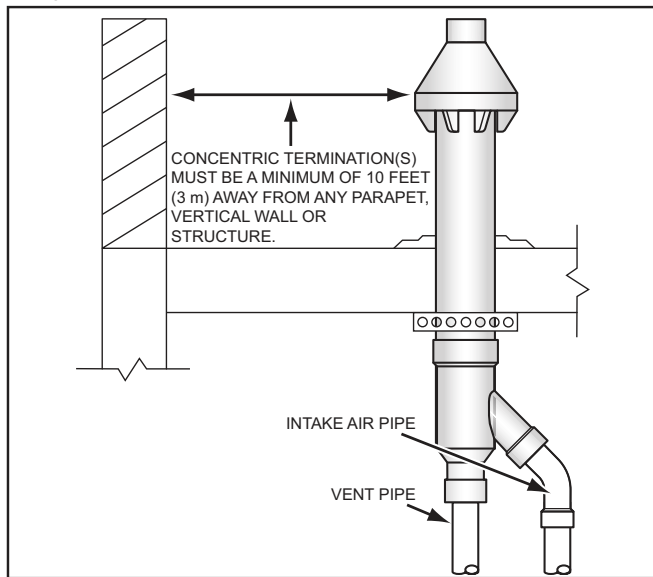
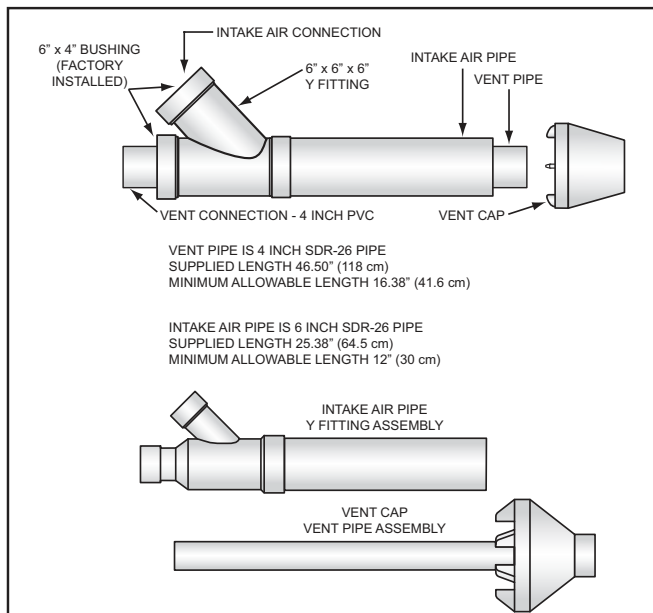
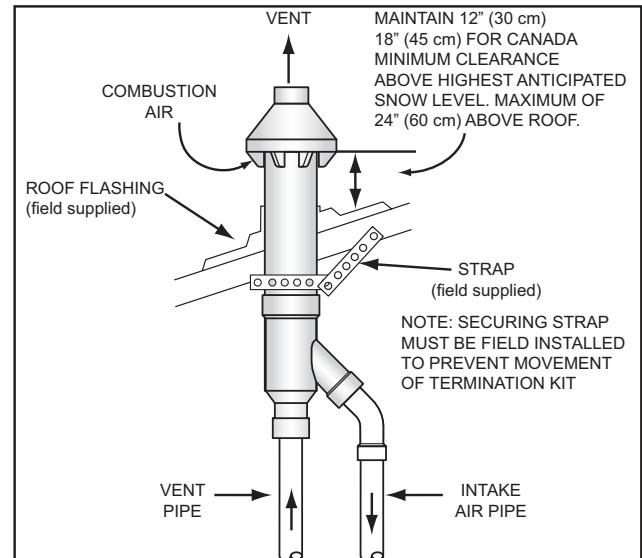
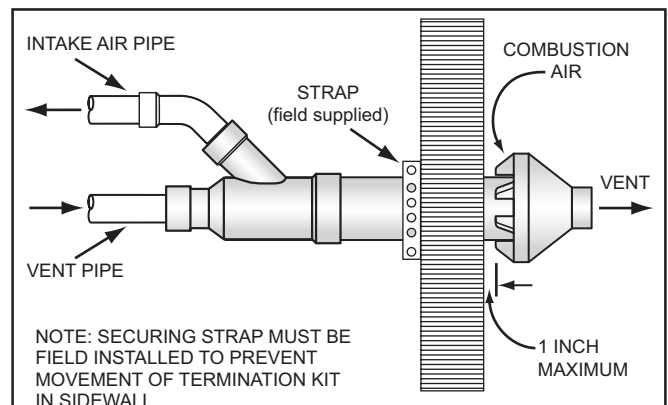

Figure 24. Six-inch Concentric Termination - Flat Roof Clearance
Figure 25. Six-Inch Concentric Termination Kit
Figure 26. Six-Inch Concentric Termination - Vertical Installation
Figure 27. Six-Inch Concentric Termination - Sidewall Installation
- When installing a concentric termination vertically through the roof; ensure that all exterior vertical clearance requirements for the concentric termination, shown in **Figure 24** and **Figure 26** (page 30), are being maintained. These clearances and those cited by local and national codes must be maintained.
- When installing a concentric termination vertically through a flat roof, the termination's vent cap must be a minimum of 10 feet (3 m) away from any parapet, vertical wall or structure as shown in **Figure 24**.
- See **Figure 25** for the minimum lengths allowed for the 6 inch concentric termination.
11. Assemble and install the 6 inch concentric termination. See *Figure 25*, *Figure 26*, and *Figure 27* for these instructions: